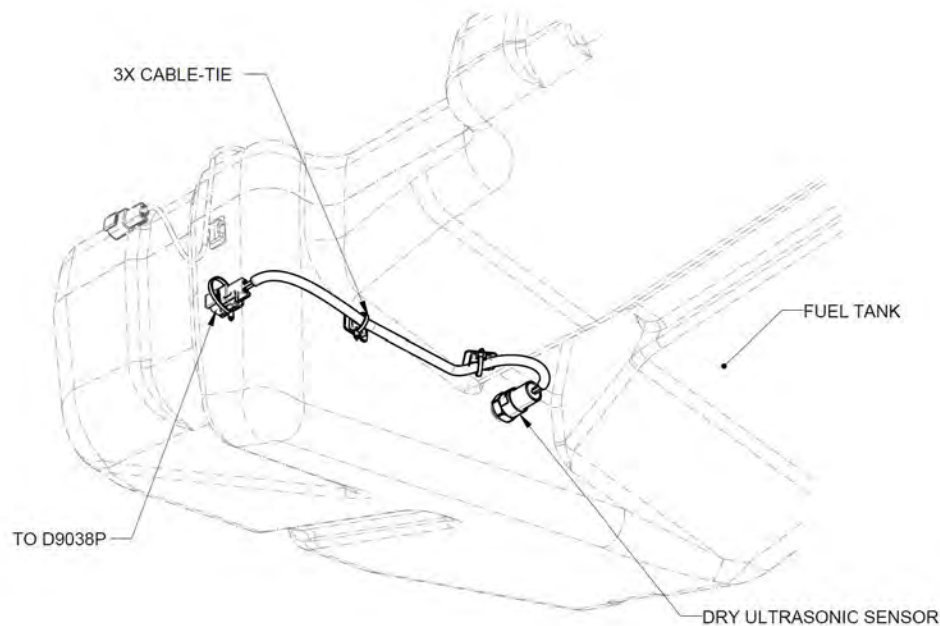

FIGURE 14-97
4. Remove 3X CABLE-TIEs along the Dry Ultrasonic Sensor Installation. (See Figure 14-97.)